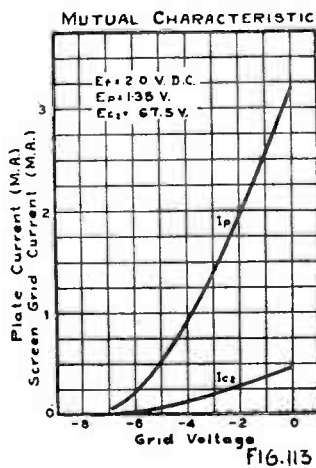

FIG. 113
Inter-Electrode Characteristics—Figs. 113, 114
- Control Grid Voltage—Plate Current..... Fig. 113
- Control Grid Voltage—Screen-Grid Current... Fig. 113